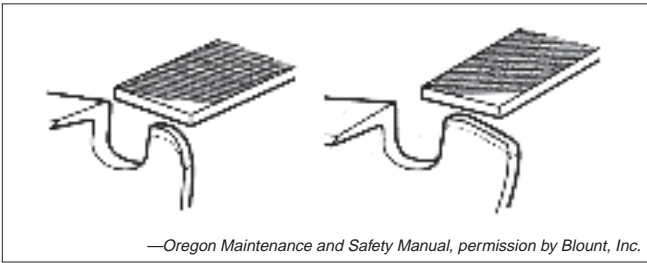

Figure 2-16—After lowering a depth gauge, always round off its leading edge.
- Keep the length of all cutters equal (figure 2-16).